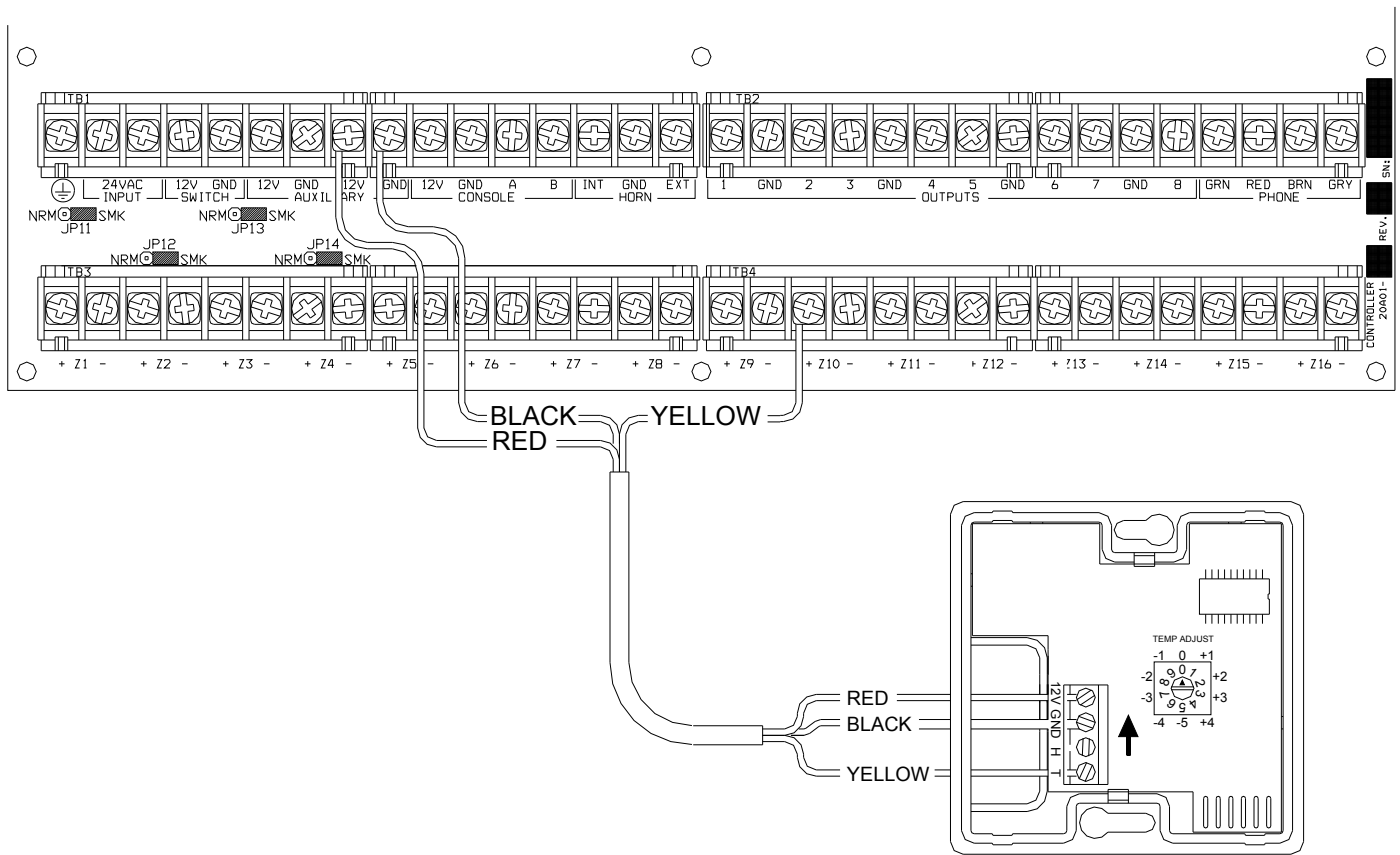

FIGURE 1 – MODEL 31A00-7 CONNECTIONS
2. Mount the Model 31A00-7 using the supplied wall anchors, screws, and mounting bracket (if desired). For optimal temperature readings, mount it vertically so that the white arrow (silk-screened onto the board) points upward as shown in FIGURE 1. The plastic enclosure must be mounted so that the airflow slots are at the top and bottom. Connect to controller as shown in FIGURE 1.
3. Program the zone type for the temperature output (T) as an Extended Range device: ER Outdoor Temperature (Type 85), ER Temperature (Type 86), or Temperature Alarm (Type 87) based on the application.